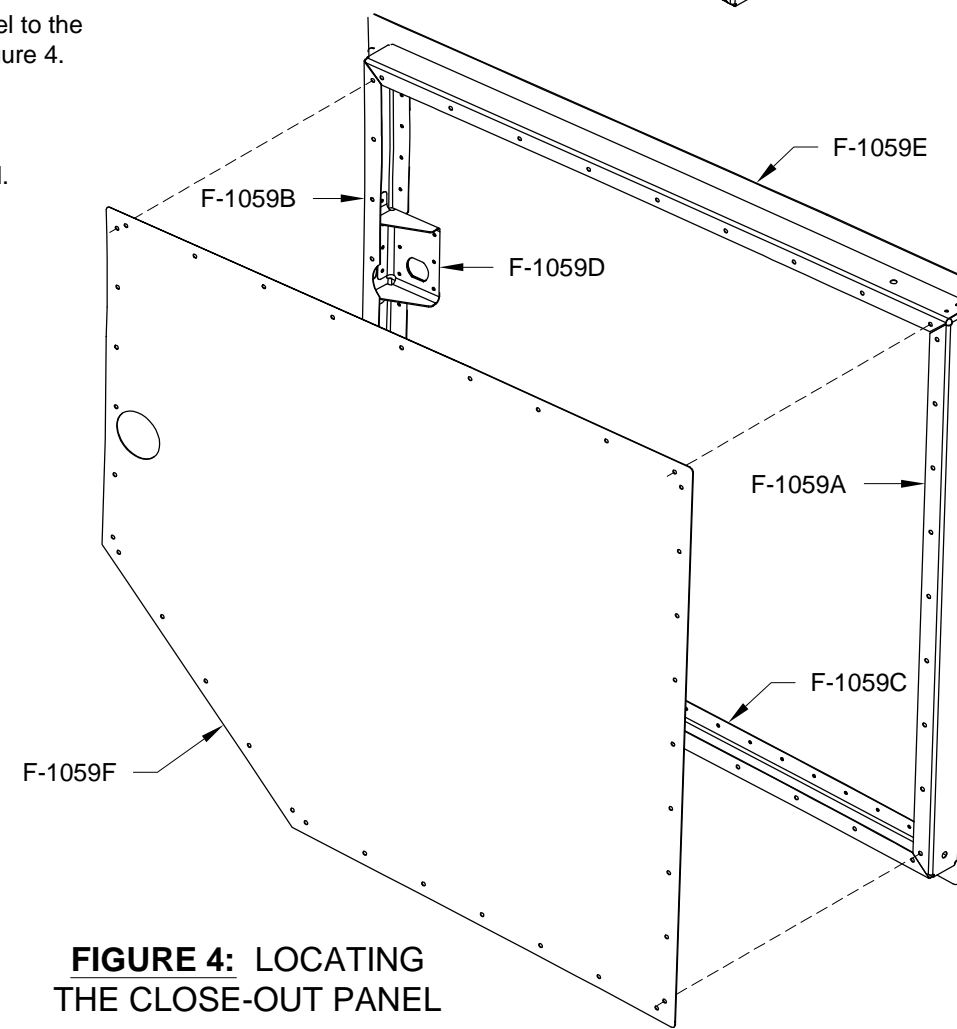

FIGURE 4: LOCATING THE CLOSE-OUT PANEL
Step 7: Cleco the F-1059F Close-Out Panel to the F-1059A, B, and C Frames as shown in Figure 4.